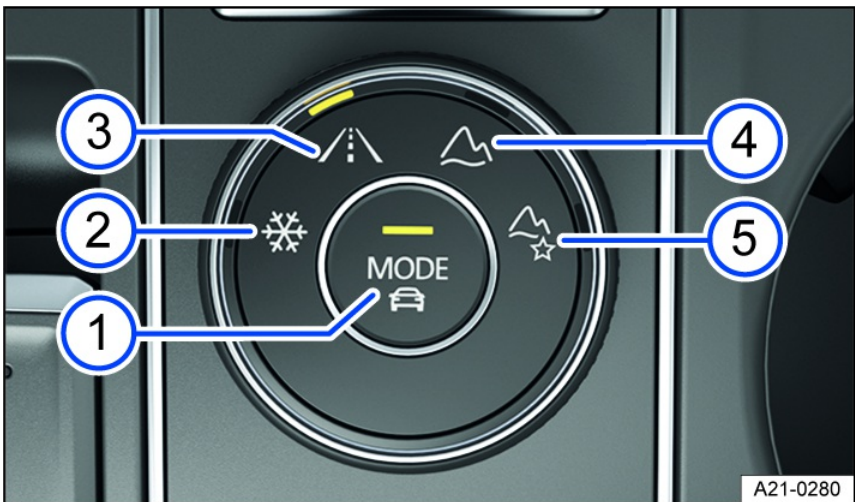

Fig. 116 In the center armrest: 4MOTION Active Control rotary switch.
1. Turn the dial until the LEDs next to the preferred driving mode comes on fig. 116.
2. To switch to the onroad driving modes, press the  button on the dial fig. 116 ① or tap **Onroad driving mode** in the Infotainment system.
Or: if the Offroad Custom driving mode is already selected, press  on the dial fig. 116 ①.